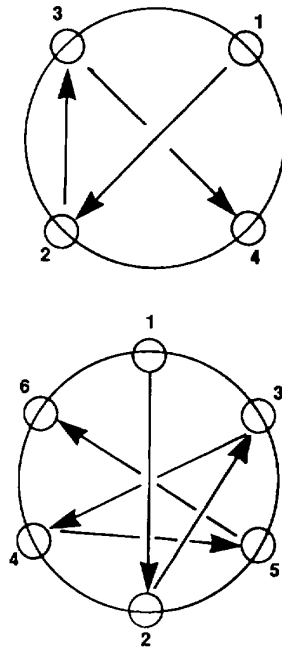

Figure 4-7. Valve Head Tightening Sequence
2. Tighten the four head nuts in accordance with Appendix F and in torque sequence as listed in figure 4-7.
2. Tighten nuts in accordance with Appendix F and figure 4-7.